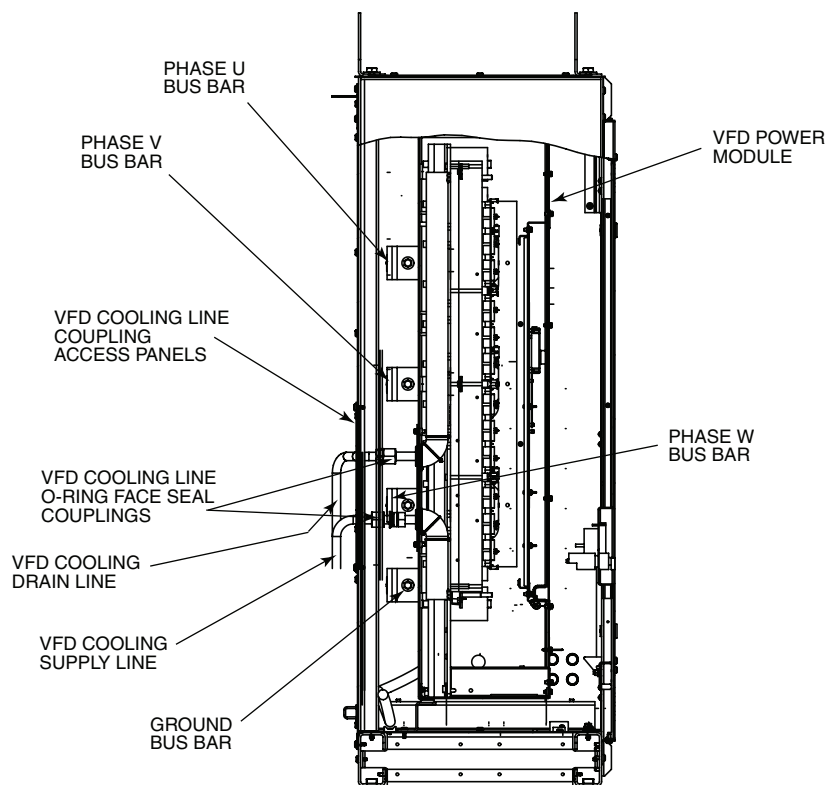

Fig. 18 — 1169A VFD Refrigerant Cooling Lines
7. Remove the access panels on the back of the VFD enclosure and disconnect the VFD cooling lines (Fig. 18). Cover all openings.
8. Install O-rings on VFD refrigerant connections using silicone grease. Tighten connector using two wrenches to 27 to 33 ft-lb (37 to 45 N-m). See Fig. 18.